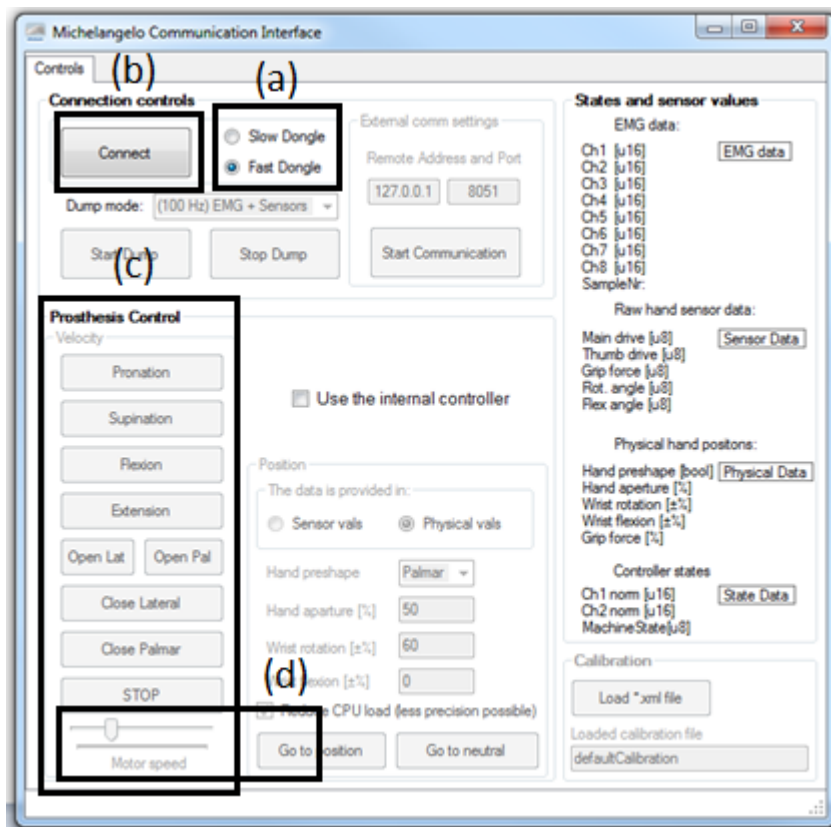

Figure 2: The view of the GUI when started
Start the application GUI "MichelangeloGUI.exe (**Figure 2**). To connect with the prosthesis, follow the steps below:
- c. The panel on the left hand side in Figure 2, marked as (c), can be used to send ‘velocity commands’ to the prosthesis. You can control the velocity (or speed) of any motor using the slider “Motor speed” (represented via the box (d)).